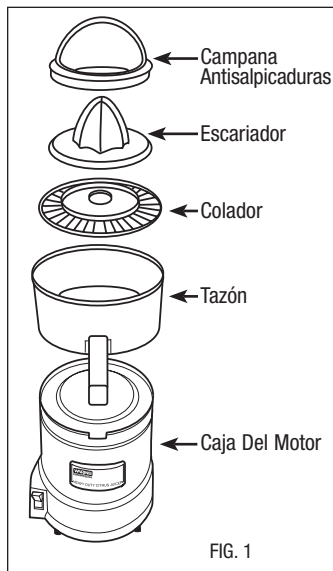

FIG. 1
DISASSEMBLING: (SEE FIG. 1)
1. After removing your Citrus Juicer from the box, familiarize yourself with the parts by disassembling the unit while referring to FIG. 1.
ASSEMBLING: (SEE FIG. 1)
DESMONTAJE: (VÉASE FIG. 1)
MONTAJE (VÉASE FIG. 1)